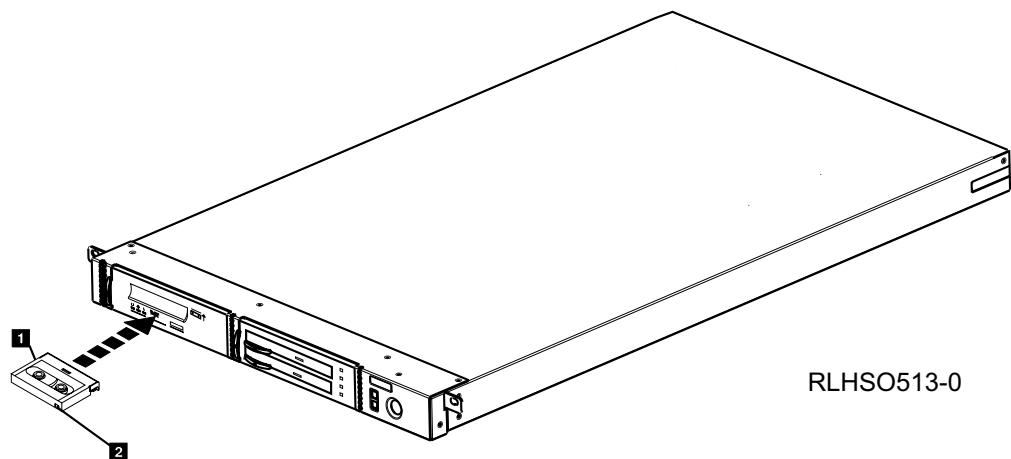

Figure 18. Loading the Cleaning Cartridge
3. Grasp the cleaning cartridge ( **1** in Figure 18) by the outer edges, with the window side up and the write-protect switch **2** facing you.